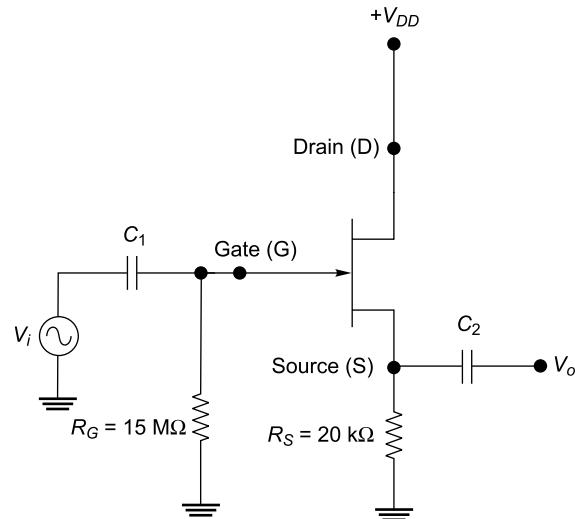

Fig. 1.92
50. Figure 1.92 shows a common drain JFET amplifier circuit. Determine the voltage gain of the amplifier, input resistance and output resistance if $g_m = 10 \text{ mA/V}$. The effect of drain resistance is neglected.